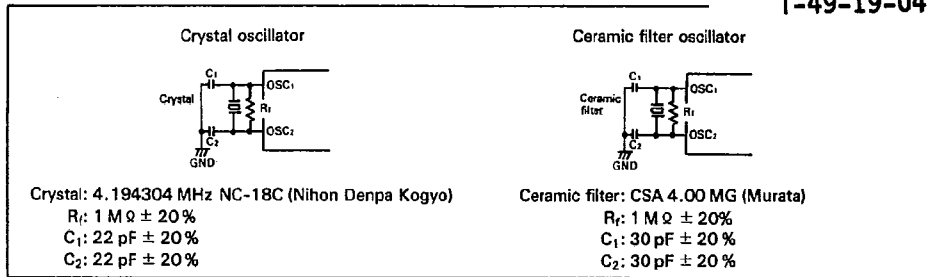

Figure 36. Oscillator Circuit
- Notes: 1. Oscillator stabilization time is the time until the oscillator stabilizes after V_{CC} reaches its minimum allowable voltage (3.5 V) after power-on, or after RESET goes high. At power-on or stop mode release, RESET must be kept high for at least t_{RC}. Since t_{RC} depends on the crystal or ceramic filter's circuit constant and stray capacitance, please get the manufacturer's advice when designing the RESET circuit. (See figure 36)